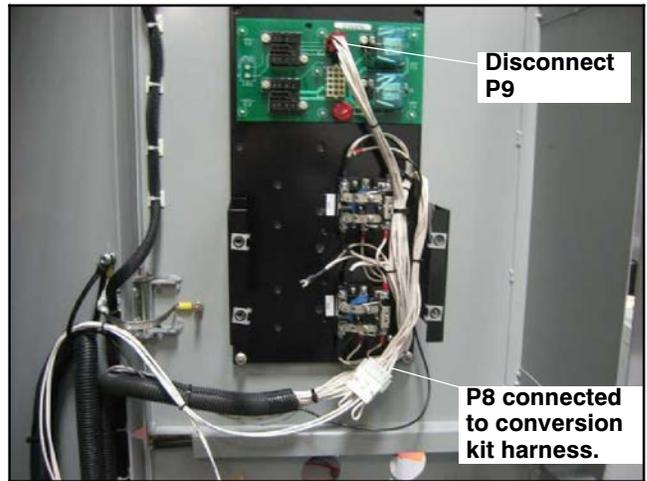

Figure 44 Disconnect P9
38. Disconnect plug P9 from the upper board. See Figure 44. Cut the cable ties to separate the harness from the other wiring and discard the P9 harness. (The other end of this harness was disconnected in step 7.)